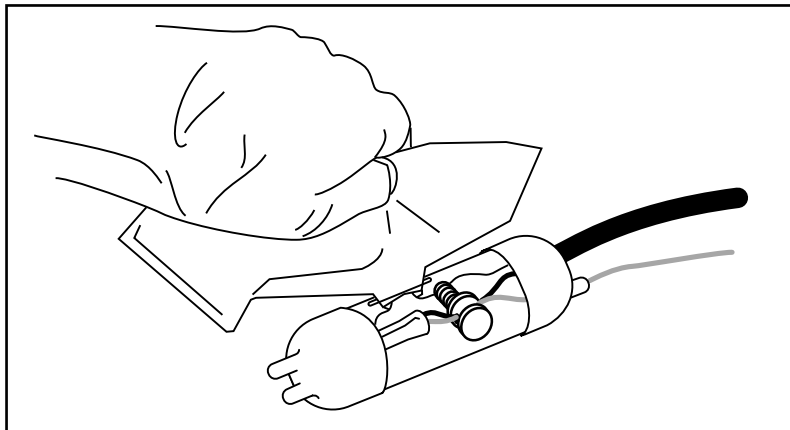

Figure 15. Pouring Sealing Compound into Sleeve
7. Once the mixture feels warm, immediately cut one corner and slowly fill the protector's plastic sleeve. Stop just short of filling the entire sleeve. **Do not overfill.** [Figure 15]